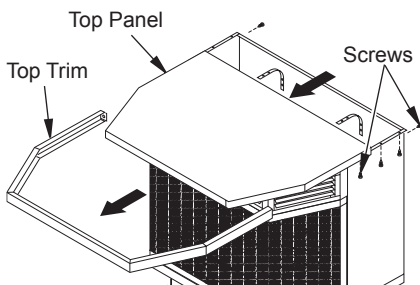

Figure 13 - Removing Stove Top Panel
1. Remove 2 screws from rear tabs on top trim. Pull trim forward to remove (see Figure 13).
2. Remove top panel of stove by removing three screws from under top lip on each side of stove (see Figure 13).
1. Remove 2 screws from rear tabs on top trim. Pull trim forward to remove (see Figure 13, page 12).
2. Remove three screws from under top lip on each side of stove to remove top panel (see Figure 13, page 12).
3. Facing front of stove, carefully slide top panel forward until it is completely removed from stove (see Figure 13, page 12).